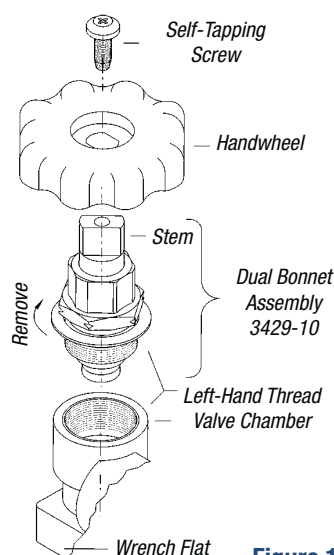

Figure 1
1. Before installing the dual bonnet assembly into the valve body, make sure the stem is turned fully counterclockwise at the top of the bonnet, as shown in Figure 1. The stem threads will be exposed as shown. This prevents the valve seat from damaging the nylon stem seat as the bonnet is tightened.